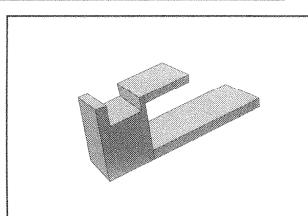

fig.4
- Special fitting for temperature range restrictions or for the temperature lock at a pre-set value. = cod. 000071 (fig.4)